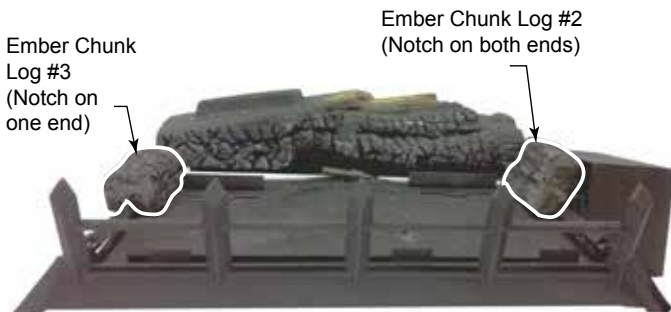

Figure 2
2. Place the ember chunk (#2) with notch on both ends on the grate bar right side of the burner adjacent to the controls. Push towards rear as far as possible. Figure 2
3. Place the ember chunk (#3) with notch on one end on the grate bar left side of the burner with notch towards rear. Push towards rear as far as possible. Figure 2